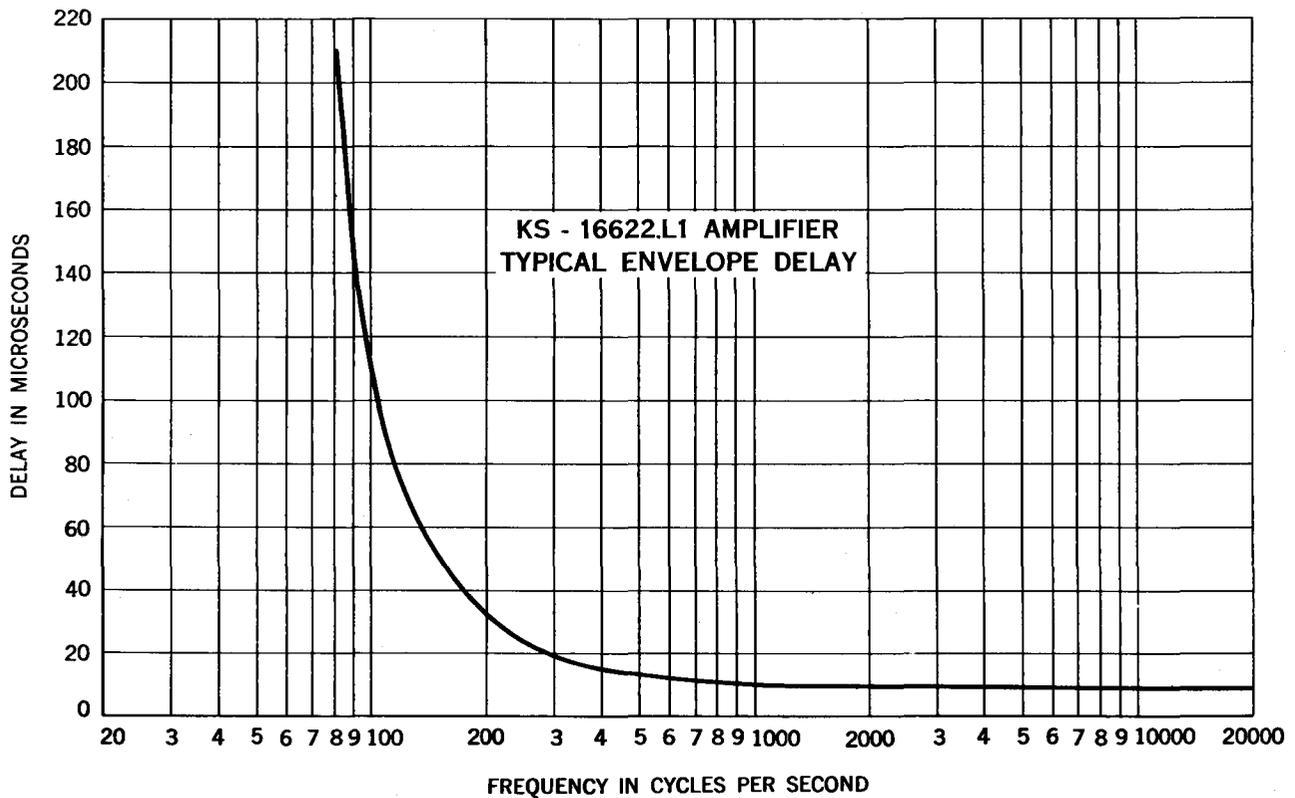

Fig. 6 - Envelope Delay Distortion
6.03 Fig. 6 shows the typical envelope delay characteristics of the amplifier in microseconds.